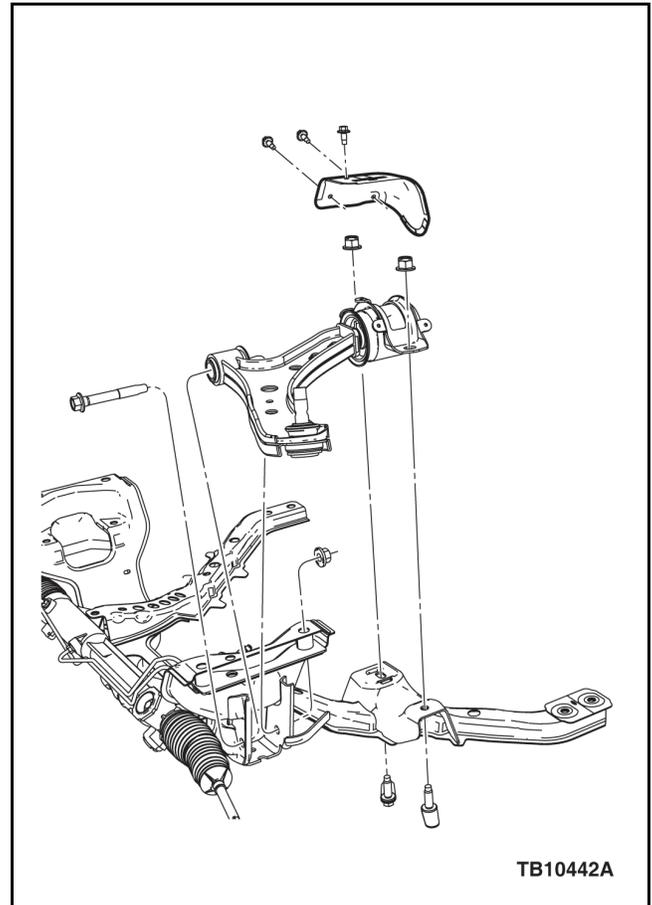

Figure 1 - Article 13-7-8
3. If the noise is confirmed as coming from the hydro bushing, replace the affected lower control arm with the new lower control arm with shield and 3 screws. Tighten the three (3) shield screws to 7 N•m (62 lb-in.) Refer to WSM, Section 204-01. (Figure 1)